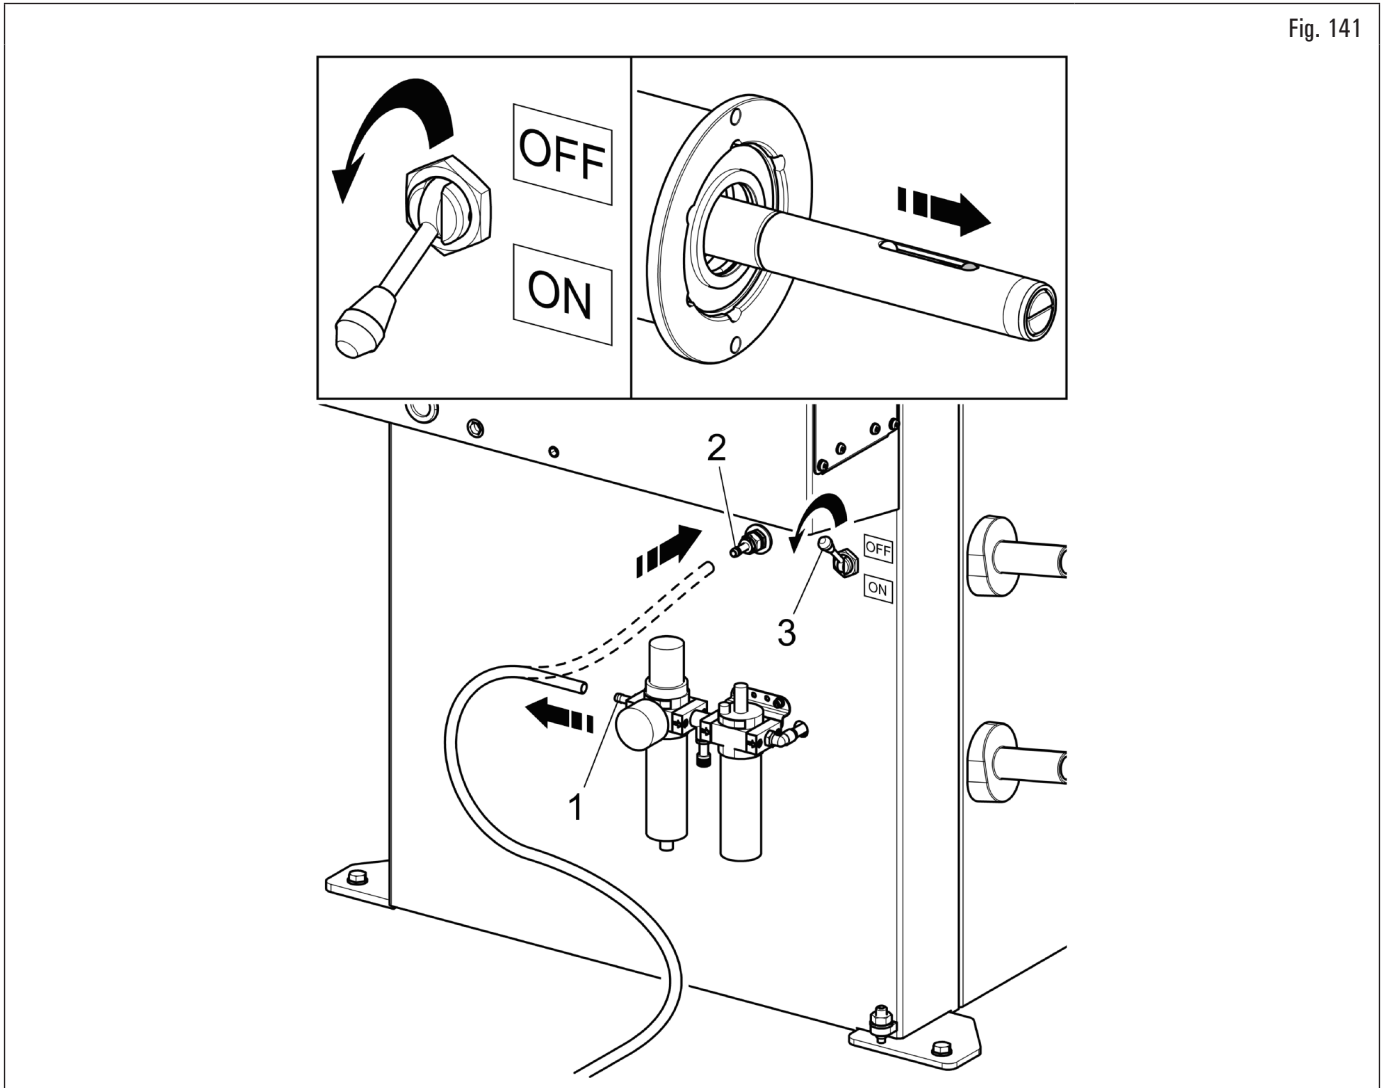

Fig. 141
In the event of a power failure, the pneumatic spindle could remain closed, keeping the wheel locked. To activate the emergency release, disconnect the pneumatic power supply from the reducer-lubricator filter assembly (Fig. 141 ref. 1) and power the emergency release system by connecting the power supply itself to the fitting (Fig. 141 ref. 2). Lower the lever (Fig. 141 ref. 3) to "ON" position to open the spindle and release the wheel. At the end, reposition the lever (Fig. 141 ref. 3) to "OFF" and restore the pneumatic connection on the lubricator reducer filter assembly (Fig. 141 ref. 1).